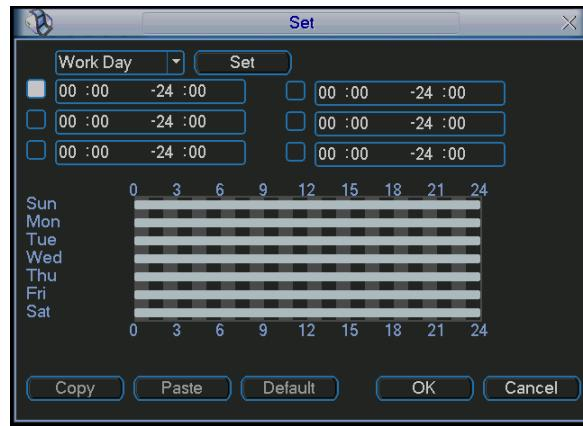
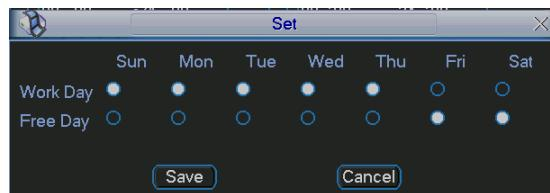

Figure 4-24
Figure 4-25
- Period: Click set button, you can see an interface is shown as in Figure 4-24. Here you can set for business day and non-business day. In Figure 4-24 click set button, you can see an interface is shown as in Figure 4-25. Here you can set your own setup for business day and non-business day.